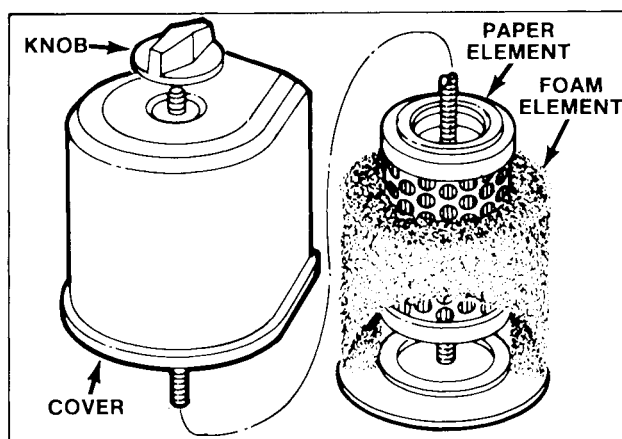

Figure 20
2. Unscrew knob and lift off air cleaner cover (Fig. 20).